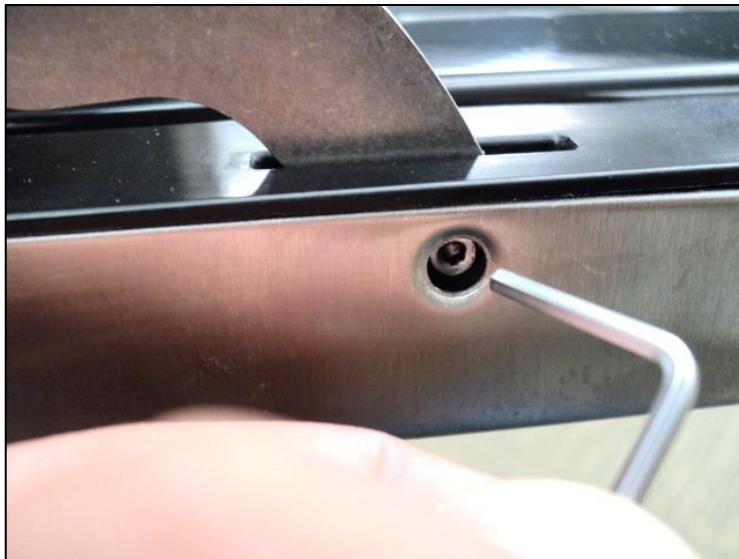

Figure 2
4. While providing support to the open door remove the Hole Plugs and Shoulder Bolts using the 2mm Hex Key Wrench as shown in Figure 2 and remove the Hinge Arms.